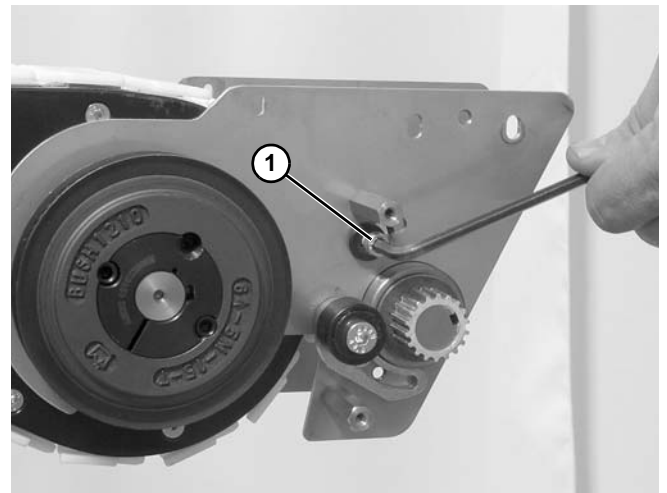

Figure 153
12. Remove socket head screw (**Figure 153, item 1**) on both sides of the conveyor and remove idler assembly.